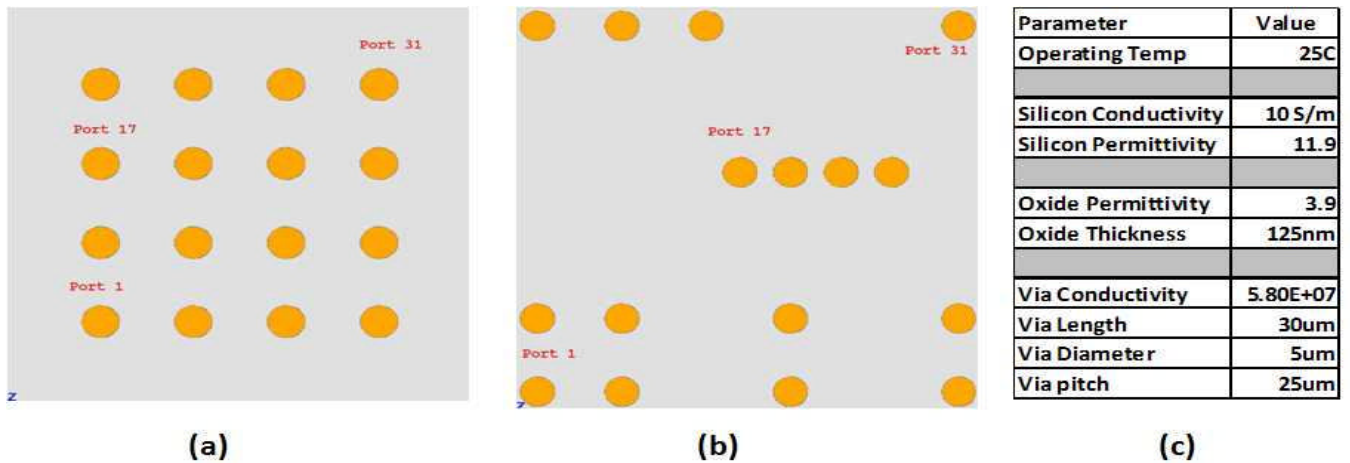
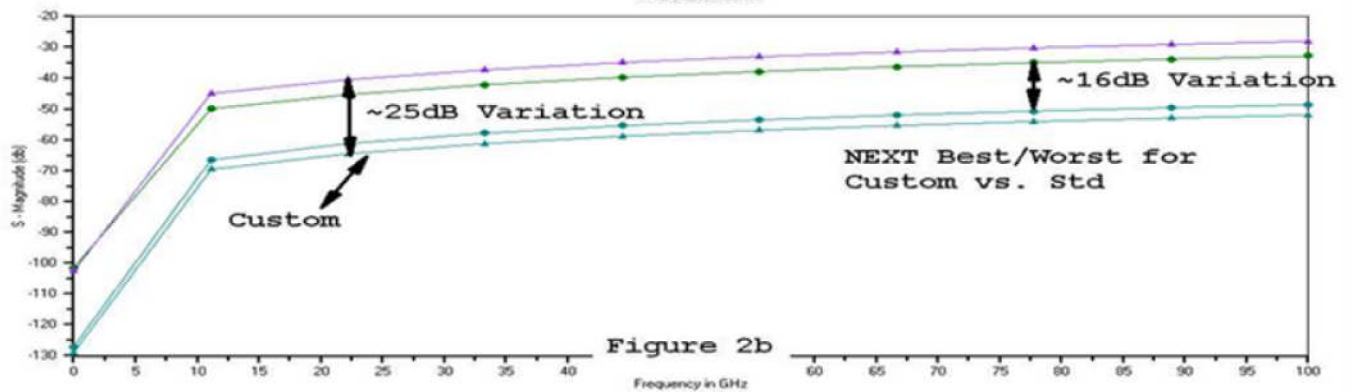

Figure 1: (a) TSV 4x4 array, (b) Custom pitch, (c) parameters used for analysis.
Figure 2b
Let us look at a short example of a 16 TSV arrayed structure (see Figure 1) related to signal integrity; a vital aspect to a structure's performance. A comparison is performed between a regular (Fig 1a) and a custom (Fig 1b) via pitched design. Besides the via array layout, user also defines other parameters for analysis (Fig 1c). The analysis will be performed on a Full Wave ElectroMagnetic (EM) Solver for accuracy.
Figure 2b shows the Best and Worst Near End Cross Talk (NEXT) for the structures shown in Figure 1. The NEXT analysis shows how much interference (noise) is transferred between a pair of vias. The location of each via and physical distance from other vias will reflect different NEXT responses for each pair of vias. Vias separated by larger distances will reflect less cross talk between them; closer vias will have larger cross talk. From Figures 2b, variation is widest for the Custom version. Some of the Custom NEXT responses are worse than the standard configuration but a few are better isolated. Whether either will satisfy the goals of this specific design must be determined by the developer. If both could satisfy the requirements the developer can choose the least costly option.